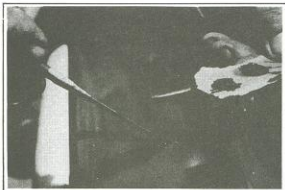

Figure 2-76. Filling Hole or Scratch
4. Fill the scratch or hole above the surrounding undamaged area about 1/16 in., working the material into the damaged area with the sharp point of a knife. Be careful to puncture and eliminate any air bubbles which may occur. See Figure 2-76.